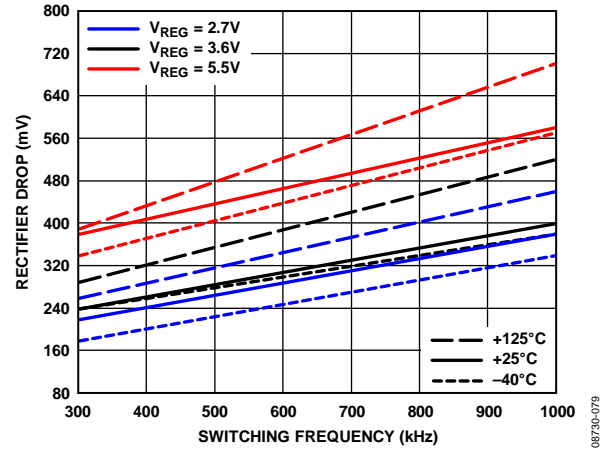

Figure 81. Internal Rectifier Voltage Drop vs. Switching Frequency
- V_{DR} is the driver bias voltage (that is, the low input voltage (V_{REG}) minus the rectifier drop (see Figure 81)).
V_{DR} is the driver bias voltage (the low input voltage (V_{REG}) minus the rectifier drop (see Figure 81)).